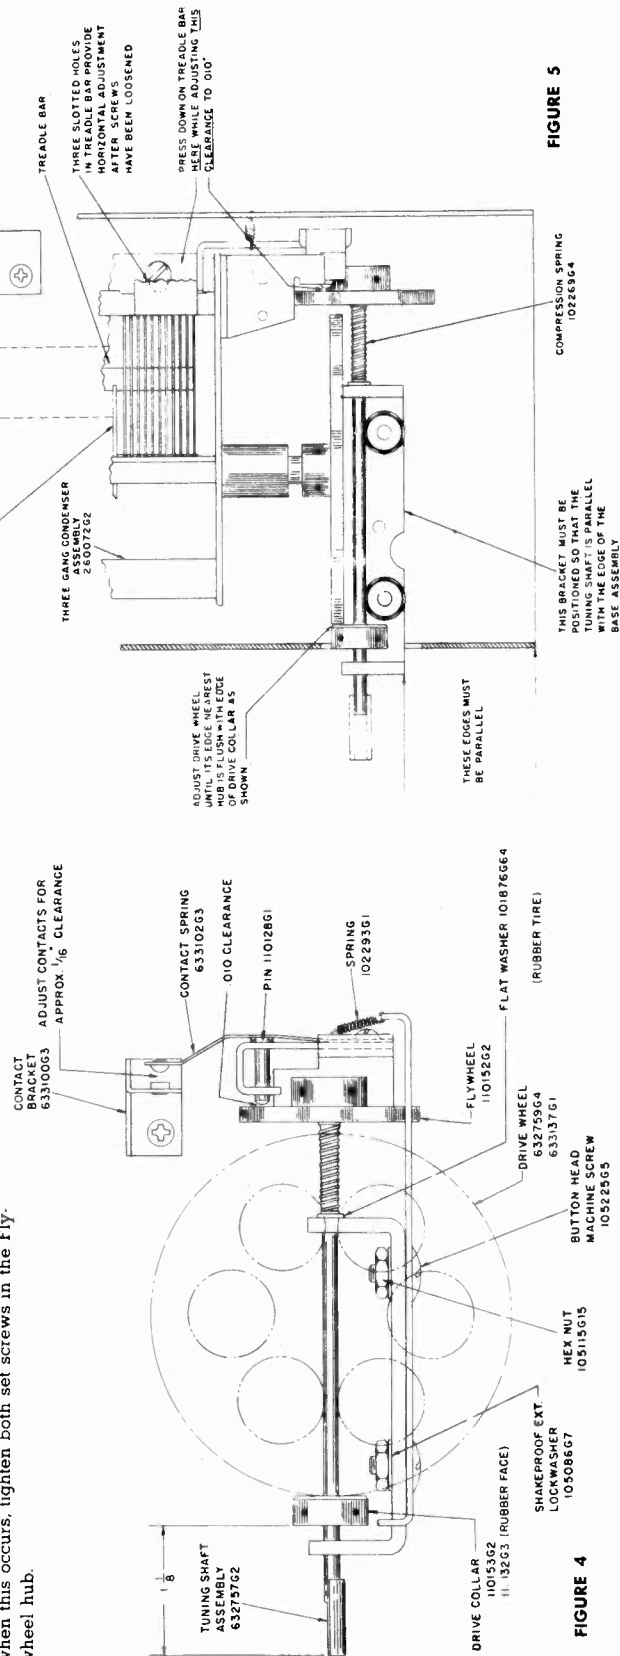

FIGURE 5
1. Assemble the Tuning Shaft, Drive Collar, Compression Spring and Flywheel in the order shown on Figure 5. The distance between the front of the Drive Collar and the front of the Tuning Shaft must be 1 1/2 inches as specified on Figure 4. Install the Flywheel on the rear of the Tuning Shaft and slide it forward until it nearly touches the edge of the Drive Wheel; then tighten one of the set screws in the Flywheel hub. Insert a .010" gauge between the Flywheel and the Pin, and while holding the gauge in this position, loosen the set screw in the Flywheel hub that was previously tightened. The Compression Spring should force the Flywheel back against the gauge—when this occurs, tighten both set screws in the Flywheel hub.
3. The Drive Wheel is properly located on its shaft when its edge nearest the hub is in line with the outside edge of the Drive Collar as shown on Figure 5. Two Allen set screws in the Drive Wheel hub provide a means of adjusting the position of this wheel.
5. If the push button shafts at both ends do not engage the Treadle Bar as shown on Figure 5, the three screws in the Treadle Bar must be loosened and the Treadle Bar should be moved until the required condition is obtained.